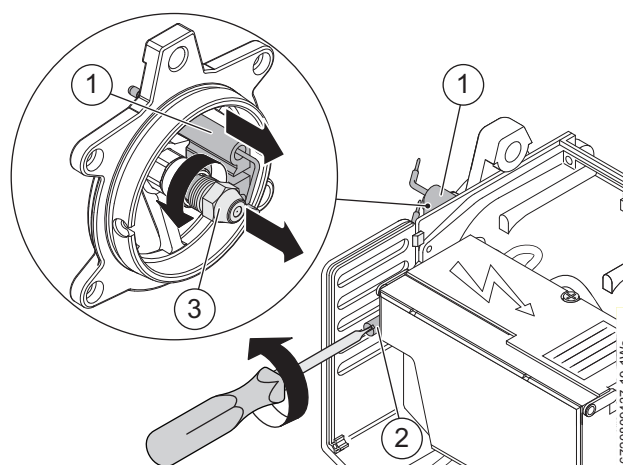
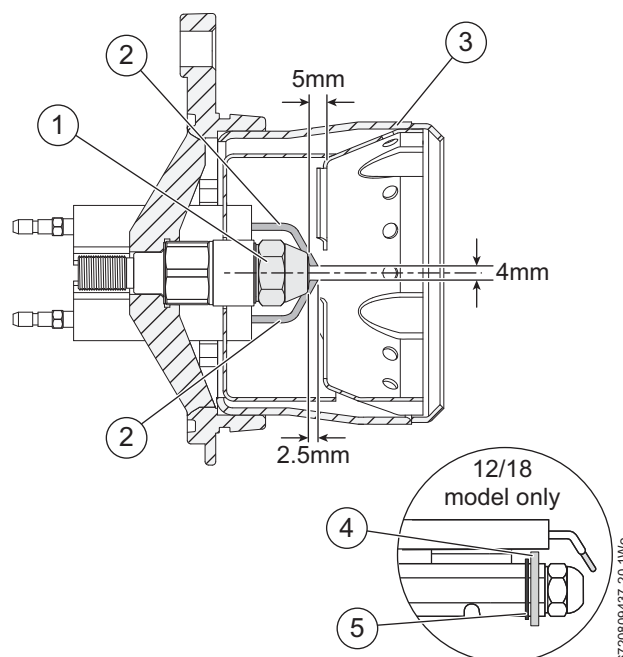

Fig. 33 Nozzle access
Fig. 34 Nozzle and electrode alignment
- ▶ Before removing or fitting a nozzle [3], loosen screw [2] figure 33 and move the electrodes [1] forward. After refitting check that the electrode gaps are correct, as shown in figure 34.
- ▶ The 12/18 model has a brass deflection washer [4] figure 34 and locating circlip [5] figure 34 behind the nozzle. These must be in place for the correct operation of the burner.
- ▶ Check that the nozzle [1] and the electrode [2] alignment settings are correct as shown in figure 34.